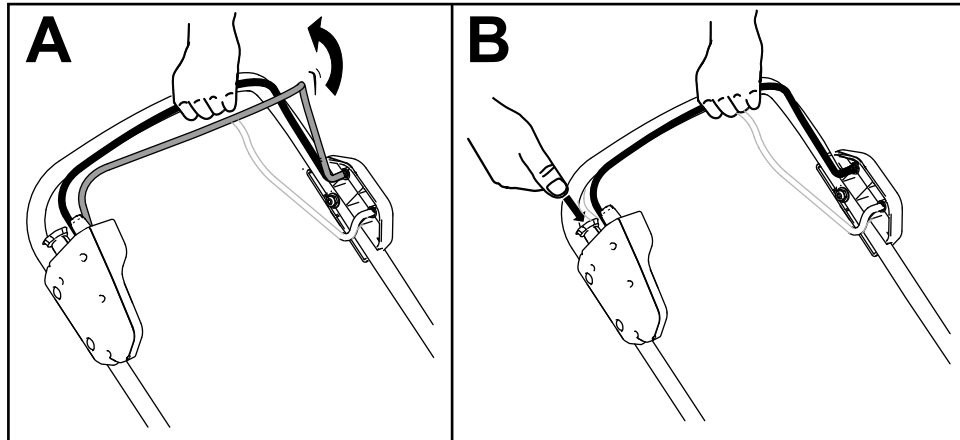

Figure 11
2. Squeeze the blade-control bar and hold it to the handle (A of Figure 11).
3. Press the electric-start button and keep it pressed until the motor starts (B of Figure 11).